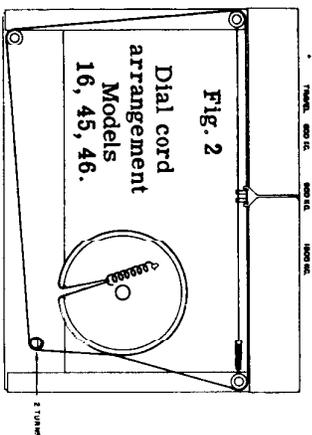

Fig. 2
**NOTE:** Calibration points are marked on the top edge of the dial back at closed gang, 600 kc, 900 kc and 1500 kc. positions (see Fig. 2), for convenience in alignment of the receiver when out of the cabinet.